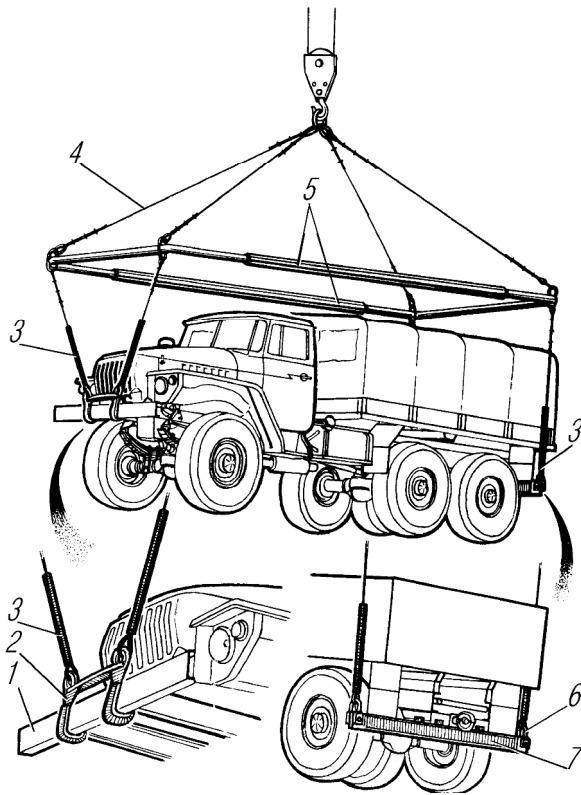

Fig. 120. Truck Slings
3. The truck handling should be performed with the help of a special mooring device (Fig. 120) or by its own power.